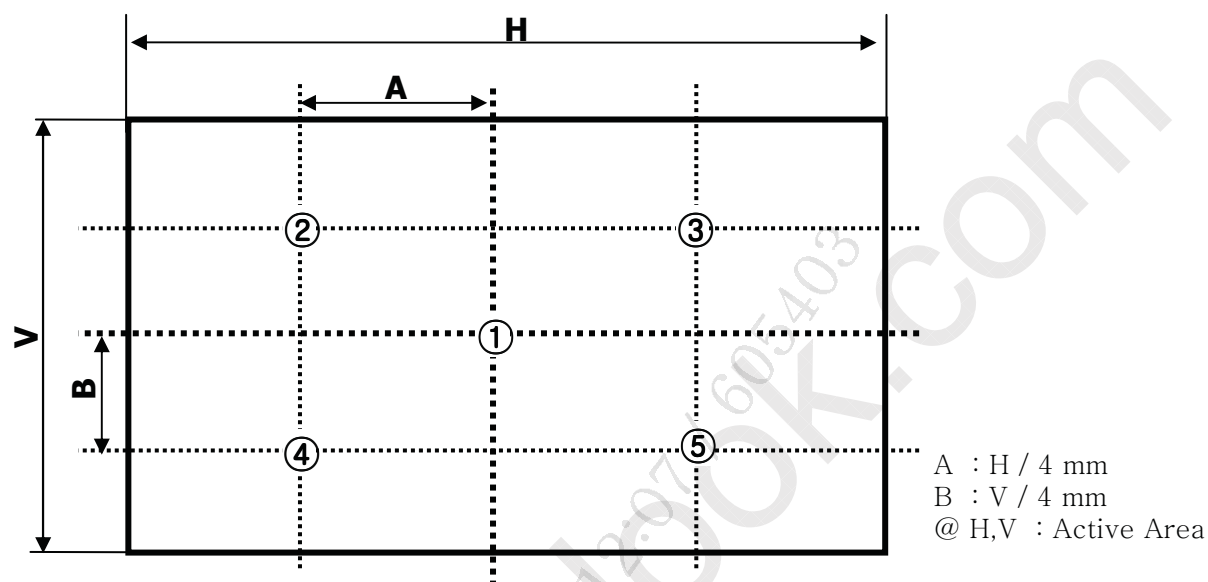

FIG. 2 Measure Point for Luminance
2. Surface luminance is determined after the unit has been 'ON' and 1Hour after lighting the backlight in a dark environment at  $25 \pm 2^\circ\text{C}$ . Surface luminance is the luminance value at center 1-point across the LCD surface 50cm from the surface with all pixels displaying white. For more information see the FIG. 2.
Where  $L_{on1}$  to  $L_{on5}$  are the luminance with all pixels displaying white at 5 locations . For more information, see the FIG. 2.